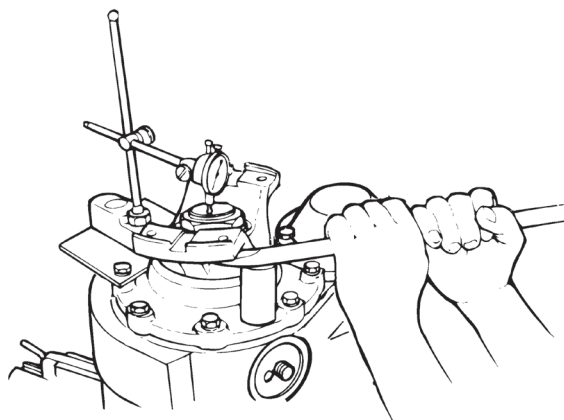

Figure 5.86
- C. Use a pry bar and a support to push the fork or the flange. Read the dial indicator. The reading must be 0.002-0.008-inch (0.050-0.200 mm). Figure 5.86.